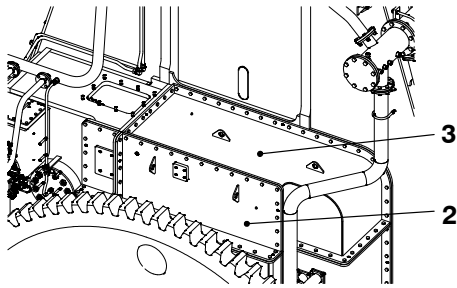

Fig. 9
- 1) Remove the covers (2 and 3, Fig. 9).